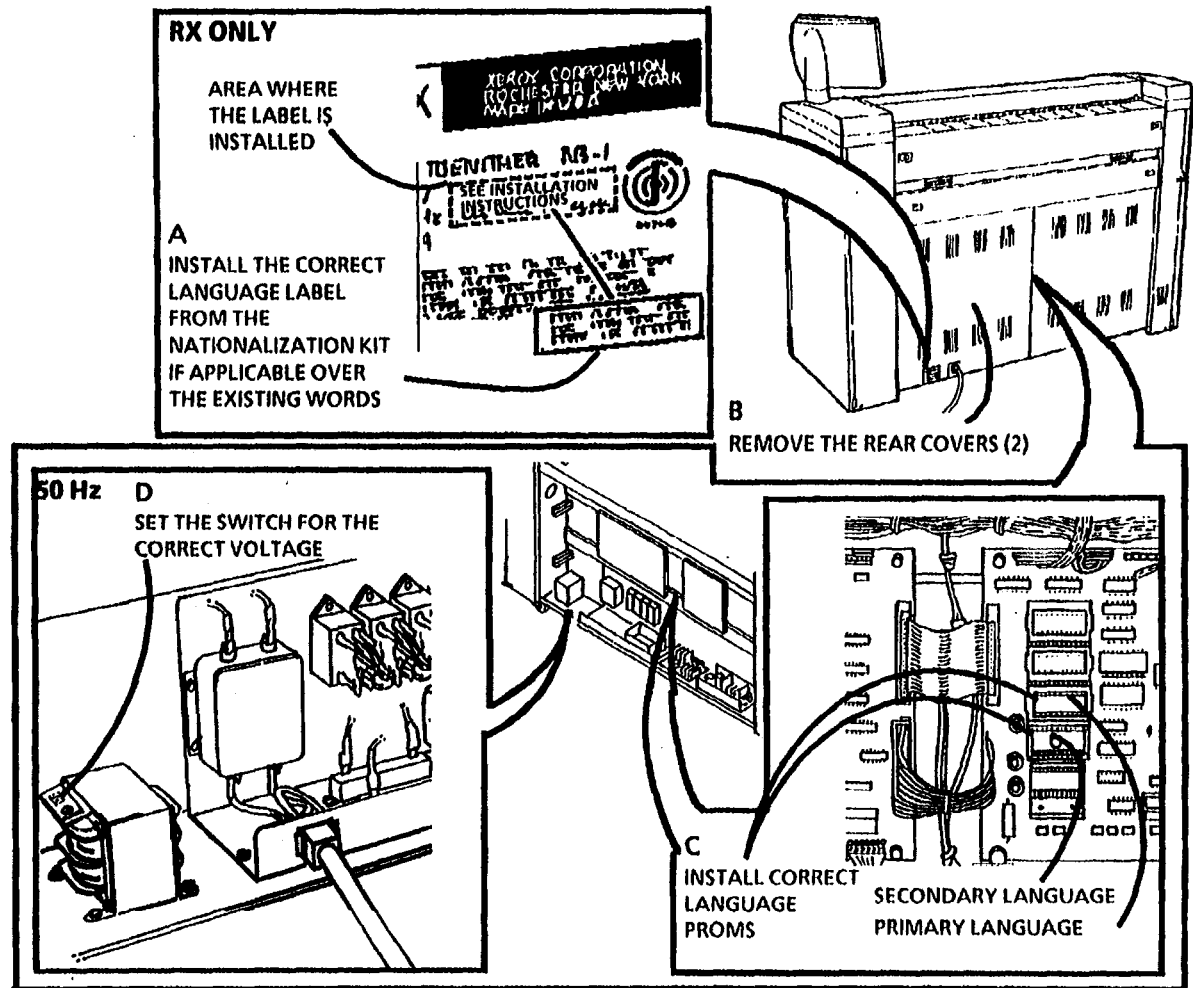

Figure 32. Install the Language Proms
41. (Figure 32): Install the Language Proms.